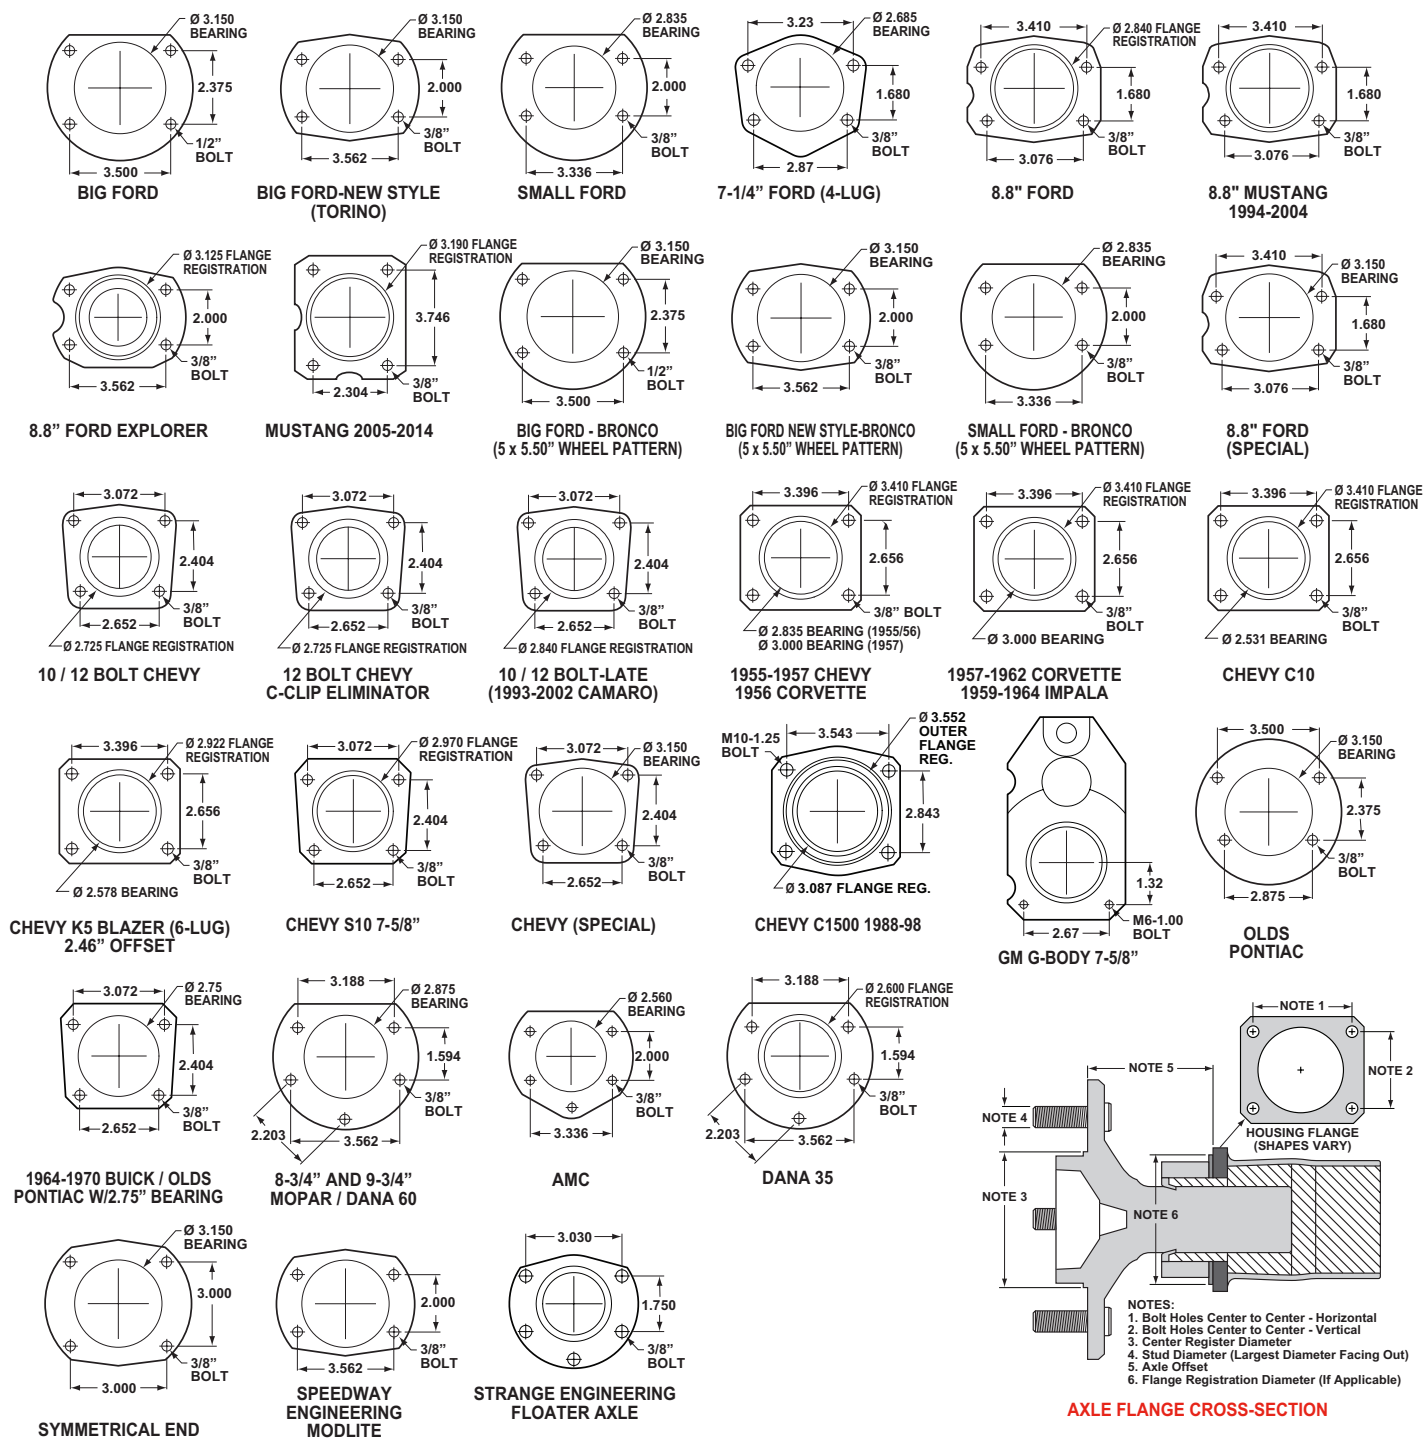

Figure 4. Rear Housing Flange Chart and Axle Flange / Offset Cross-Section
- Dimension from wheel side of axle flange to wheel side of axle housing flange (see Figure 4, Note 5, lower right hand corner). This dimension is critical to ensure proper alignment of the rotor to the caliper, and should match offset given in the kit description.